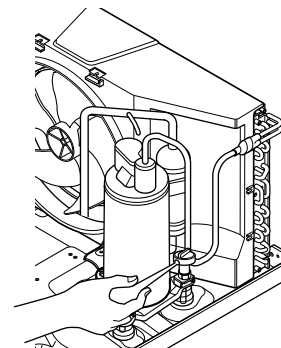

Figure 24
6. Remove the compressor. (See Figure 24)